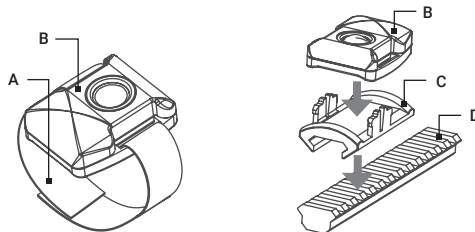

FIGURE 2-4. WIRELESS REMOTE CONTROL
Using Velcro tape (A), fasten the Wireless Remote Control (B) (Figure 2-4) to your weapon in an easily accessible place (e.g., on the front of the rifle stock) on the side of the Comanche-22's control compartment preferably.